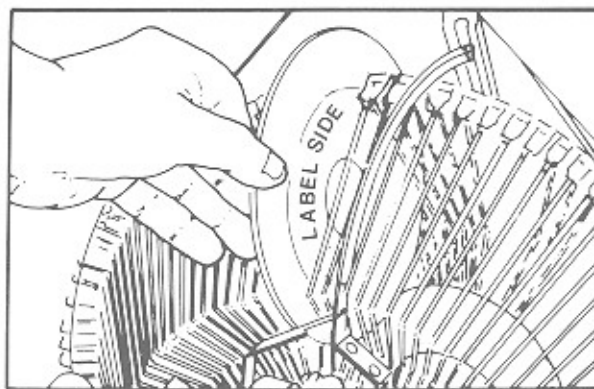

Figure 2-6. Loading A Disk
4. Slide the CD into the slot with the label to the right (*figure 2-6*).